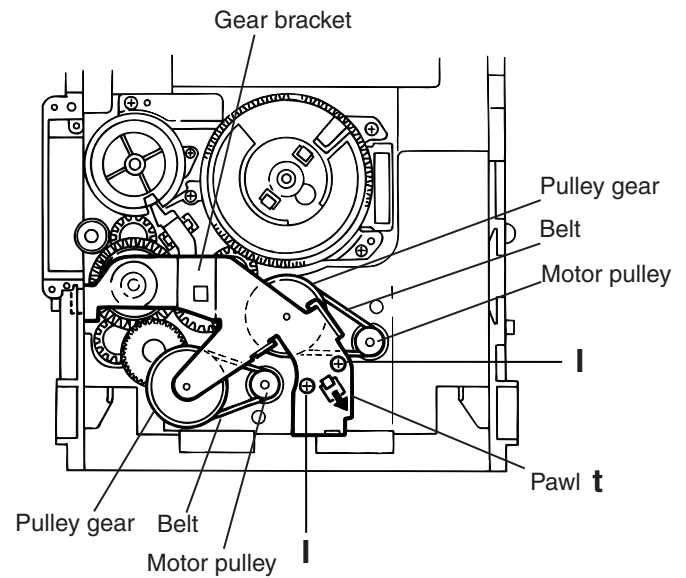

Fig.18
4. While turning the cam gear "q", align the Paul "s" position of the select lever to the notch position(Fig.18) on the cam gear "q".
5. Remove the four screws **H** retaining the cam unit(cam gear "q" and cams R1/R2 assembly)(See Fig.18).
## ■ Removing the actuator motor and belt (See Fig.18~21)
(See Fig.18).
4. Remove the belts respectively from the right and left actuator motor pulleys and pulley gears(See Fig. 18).